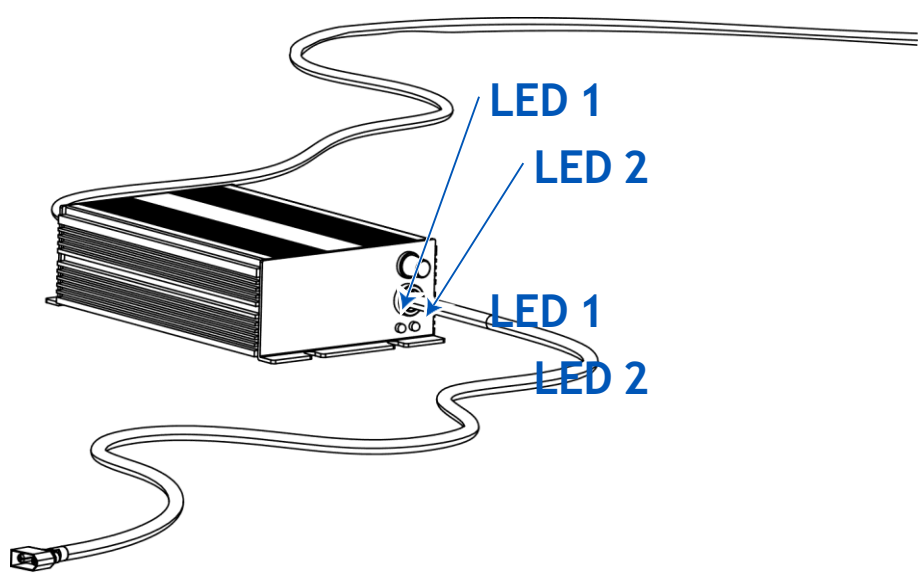

Fig. 38
- 1. The charger cable must be plugged into the household mains (Figure 37a). At this point, LED 1 on the charger will be red and LED 2 will be green (Figure 38).